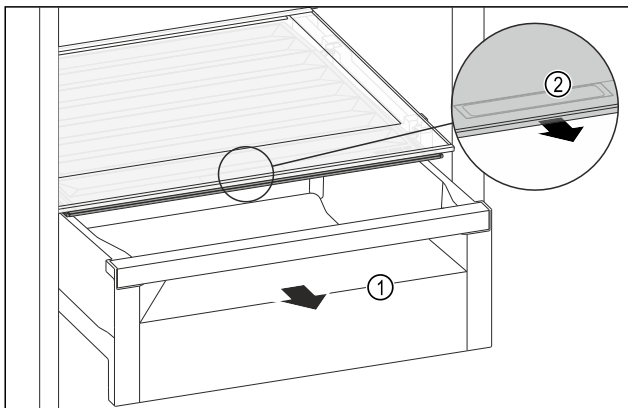

Fig. 121
- ▶ Pull out the drawer Fig. 121 (1).
- ▶ Grasp the recessed grip Fig. 121 (2) on the compartment lid and pull the compartment lid forwards at the same time.